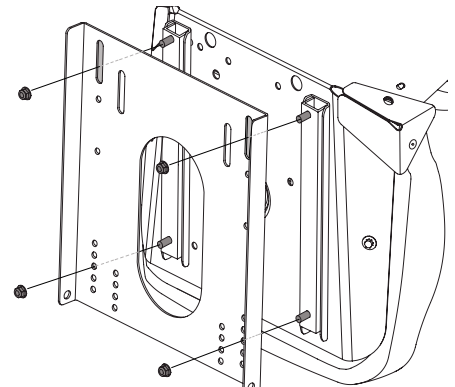

Figure 2-11
- Using the four provided bolts (a), install the seat onto the seat pan. Place the screws (b) on the front of the seat through the middle hole in the seat pan (c) as shown in Figure 2-11. Securely tighten the seat to the seat pan.